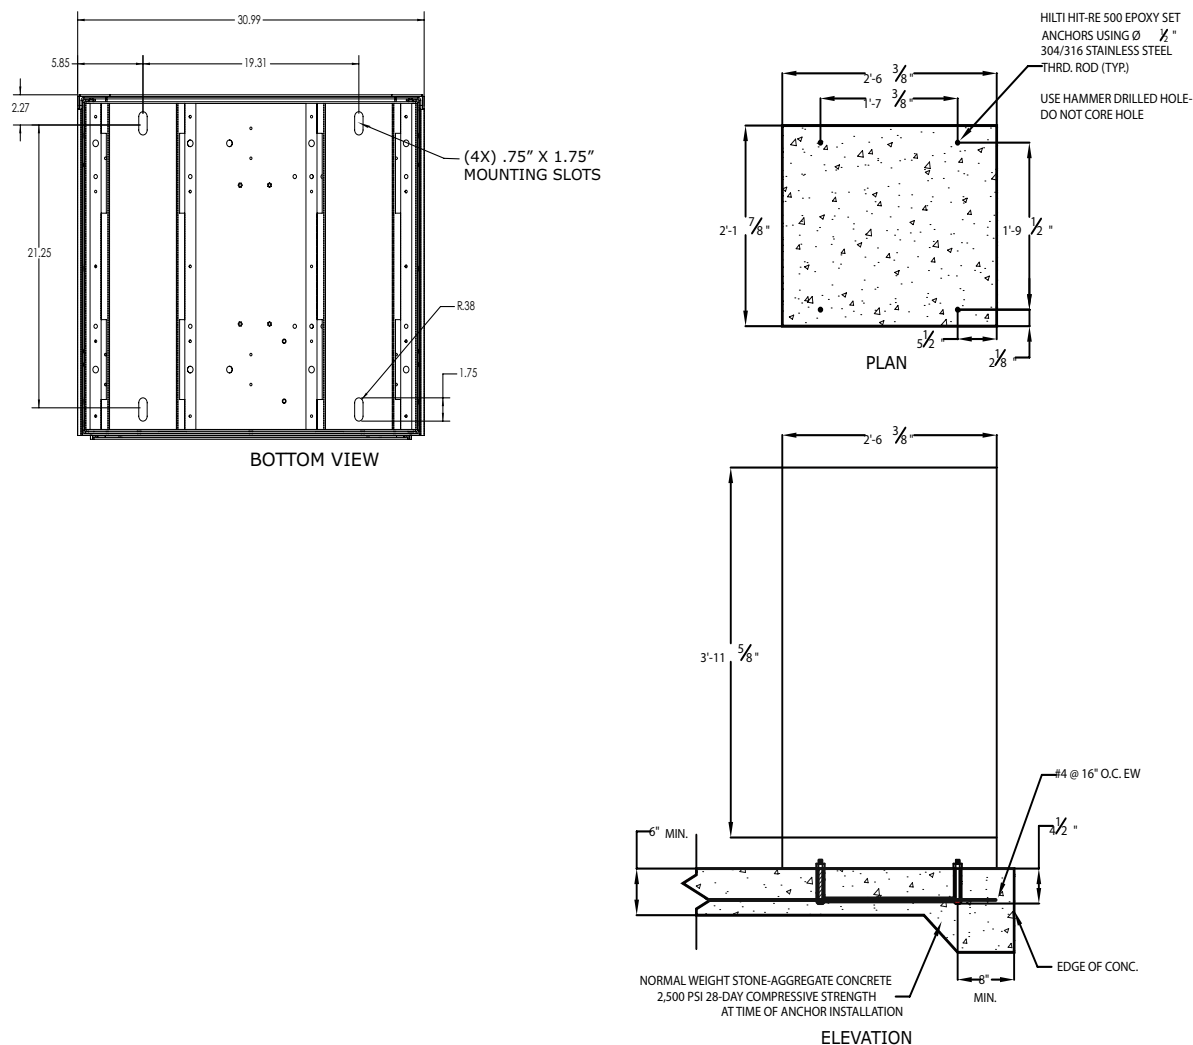

Figure 4-1 Mounting Dimensions and Seismic Compliant Anchoring
The inverter must be anchored to a concrete pad. The mounting pad must meet local seismic requirements. See *Figure 4.1 Mounting Dimensions* for concrete pad mounting specifications.
2. Using the dimensions shown in Figure 4-1, install four of the ½ inch concrete anchors into the floor.